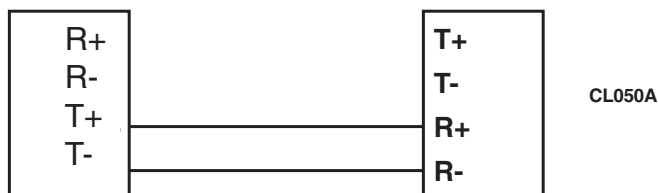
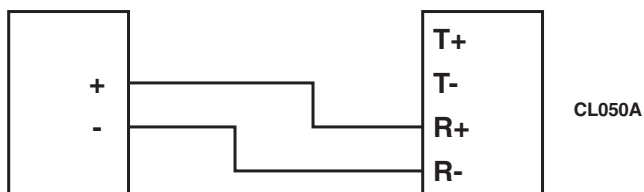

Figure 4-1. Wiring configuration for a 4-wire current loop LED test.
Figure 4-2. Wiring configuration for a 2-wire current loop LED test.
- (1) Unplug the CL050 from the AC outlet.
- (2) Set the SWA switch to full duplex, passive.
- (3) Attach the T- of the 4-wire current loop device (or “-” in a 2-wire current loop) to R- of the CL050A.
- (4) Attach the T+ of the 4-wire current loop device (or “+” in a 2-wire current loop) to R+ of the CL050A. See Figure 4-1 (4-wire current loop) or Figure 4-2 (2-wire current loop).
- (5) Plug the CL050 into the AC outlet.